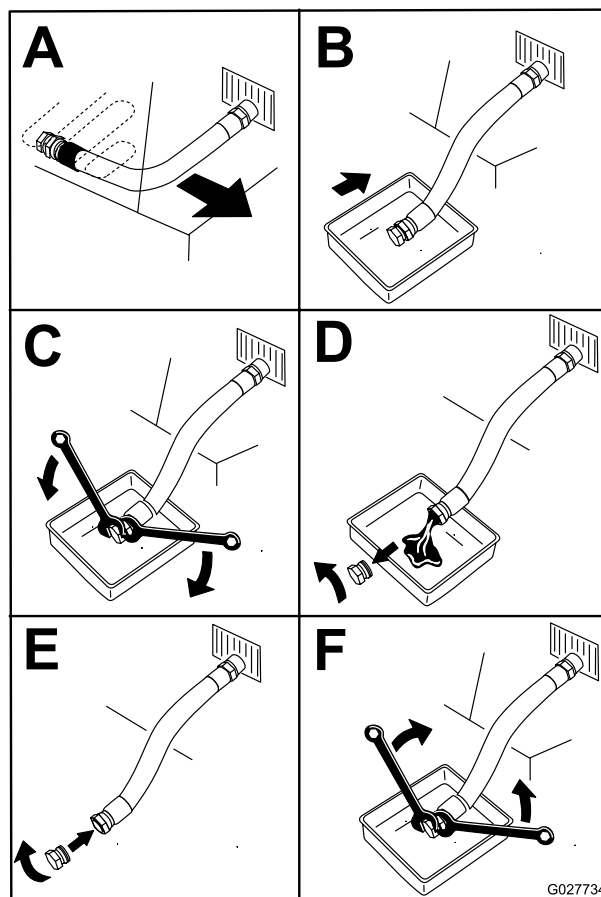

Figure 50
3. Stop the engine, remove the key, and wait for all moving parts to stop before leaving the operating position (Figure 50).